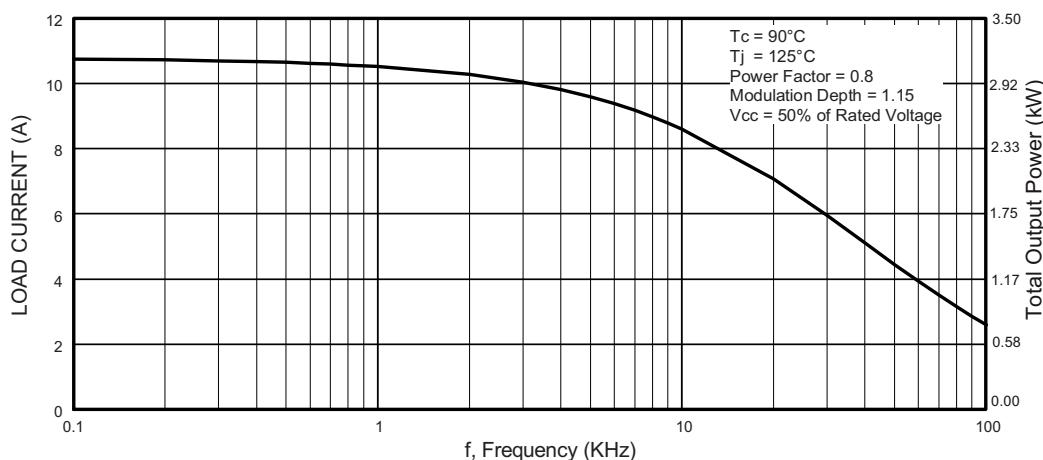

Fig. 1 - Typical Load Current vs. Frequency
Modulation depth (see fig. 1)	115 %
- Optimized for medium speed, see fig. 1 for current vs. frequency curve